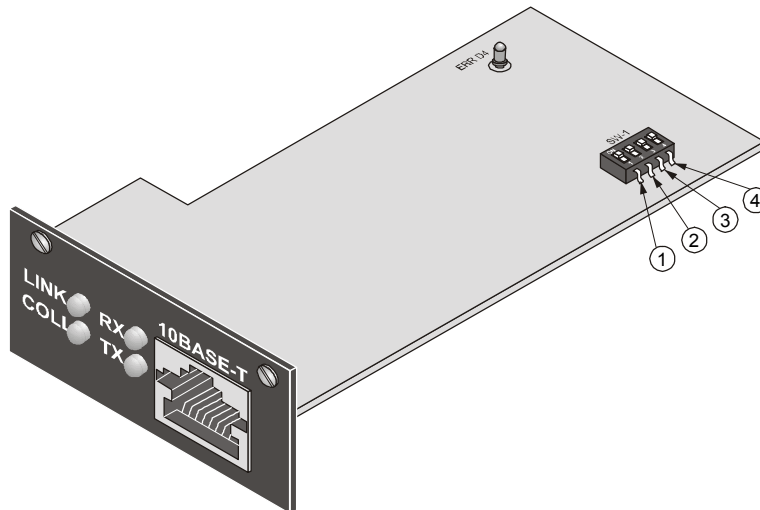
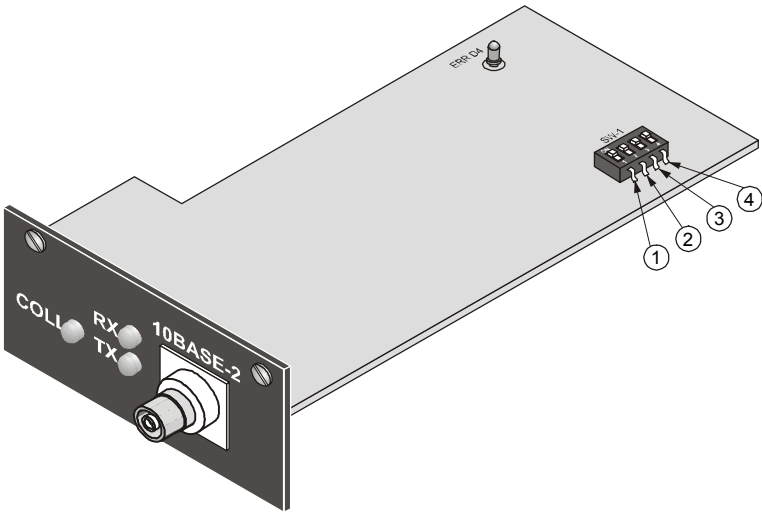

Figure A-5 Ethernet Bridge Layout (UTP Option)
Figure A-6 Ethernet Bridge Layout (BNC option)
*Figure A-5* and *Figure A-6* show the Ethernet bridge layout, the locations of the DIP switches, and the rear panel components for the UTP and the BNC versions, respectively.